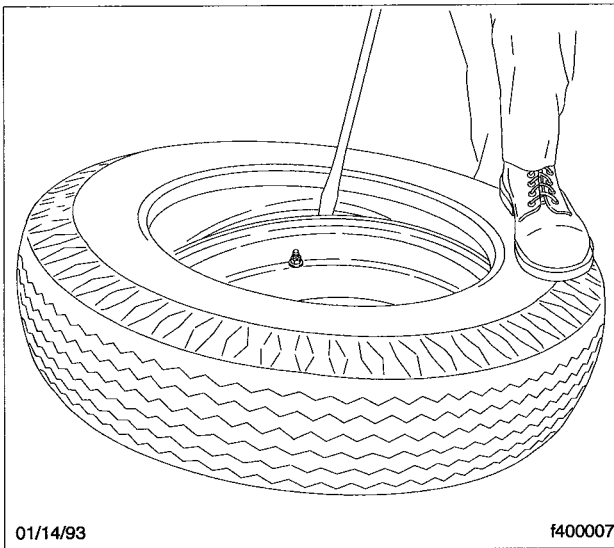

Fig. 6, Work the Bead into the Rim
- 6.3 Lay the tire on the rim. If there is a balance mark on the tire, line up this mark with the valve stem. Push the lower bead over the flange and into the rim well. Using the straight end of the tire tool (with the stop resting on the rim flange), proceed in small increments to work the remaining section of the bead into the rim. See **Fig. 6**.